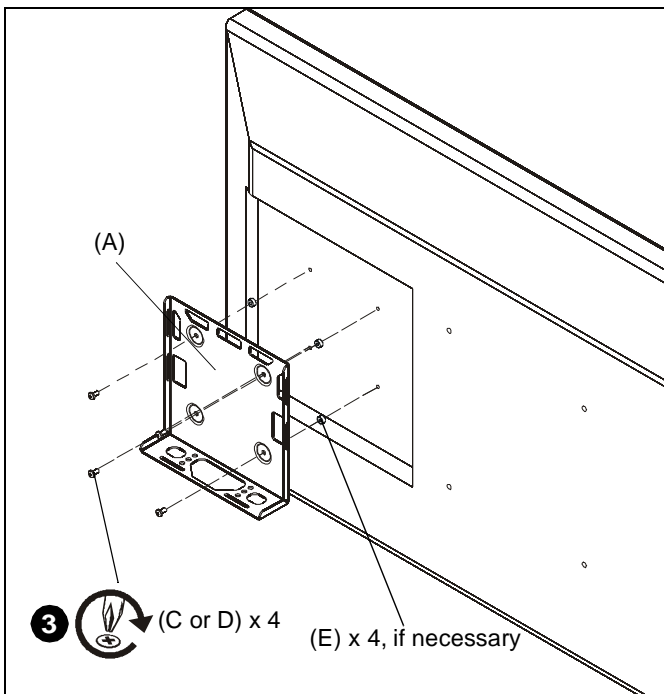

Figure 1
3. Use selected screws (C or D) and spacers (E), if required, to connect media player mount (A) to back of display. (See Figure 1)